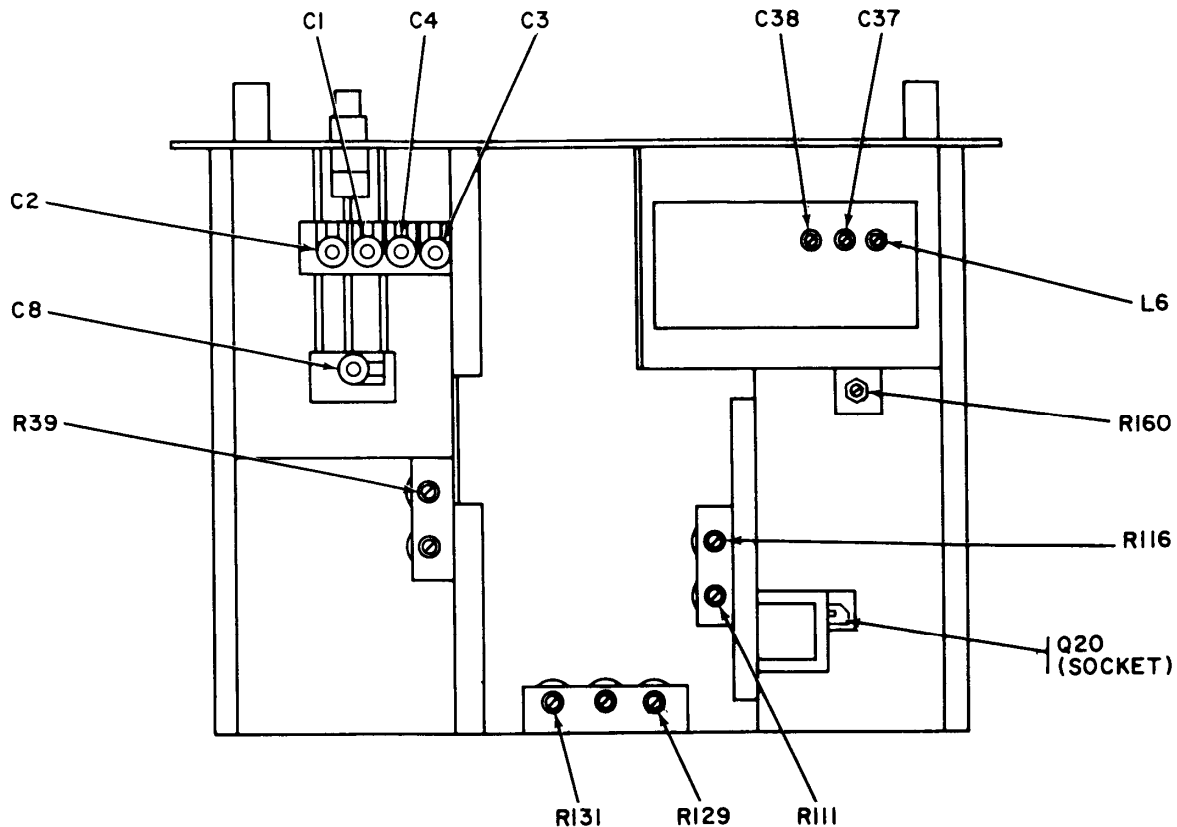
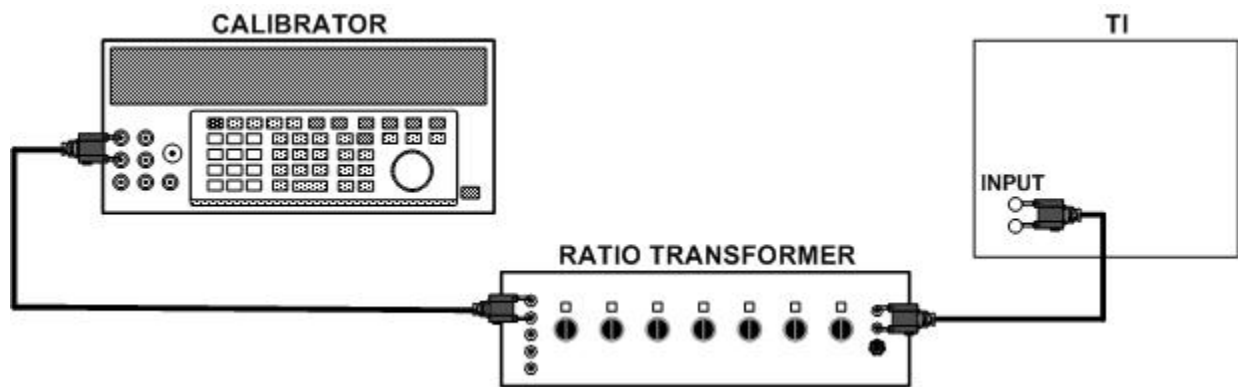

Figure 1. Wave analyzer - adjustment locations.
Figure 2. Calibrator and voltage accuracy - equipment setup.
- (6) Substitute frequency counter with multimeter.
- (7) Vary **FREQUENCY** dial from 20 Hz to 50 kHz. If multimeter does not indicate at least 1 V, perform **b** (3) below.
b. Adjustments (fig. 2)
- (1) Adjust L6 for out-of-tolerance indications on low end of **FREQUENCY** dial (R).
- (2) Adjust C37 (fig.1) and C38 (fig. 1) for overall in-tolerance indication (R).
(3) Adjust R116 (fig. 1) for an indication of at least 1 V rms on multimeter (R).
- (13) Connect equipment as shown in figure2.
- (1) Adjust calibrator for an output of 1.0 V_{ac} .
- (2) Set **RANGE (VOLTS)** switch to **METER CAL**.
- (3) Adjust **METER CAL** adjustment screw until TI **R.M.S. VOLTS** meter indicates 1.0 to 1.0 scale.
- (4) Adjust **FREQUENCY** dial for maximum indication on TI **R.M.S. VOLTS** meter (approx. 4 to 5 kHz).
- (5) Adjust R39 (fig. 1) until TI **R.M.S. VOLTS** meter indicates 1.0 on 0 to 1.0 scale (R).
- (6) Adjust R111 (fig. 1) until oscilloscope indicates 7 V p-p (R).
(1) Adjust calibrator output amplitude for indication as established in **a** (5) above.
(2) Adjust C3 (fig. 1) until TI **R.M.S. VOLTS** meter indicates value recorded in **a** (5) above (R).